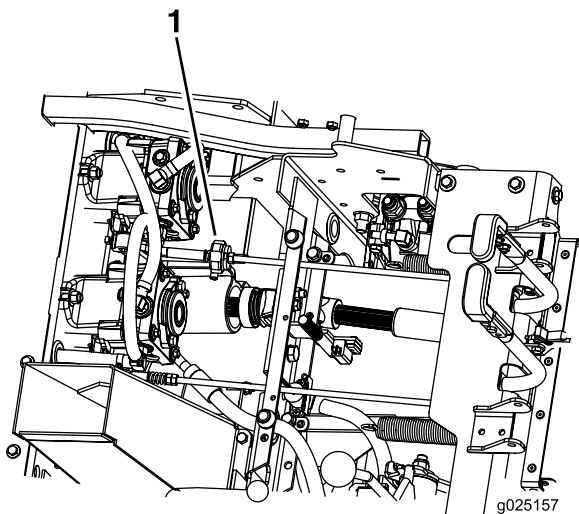

Figure 52
7. Check and ensure that the machine does not creep when in neutral with the parking brakes disengaged (Figure 52).